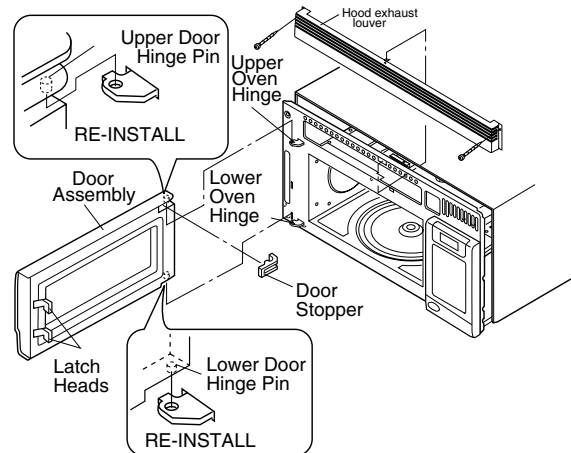

Figure C-2. Door Replacement and adjustment
- Remove one (1) screw holding the hood exhaust louver to the oven cavity with outer case cabinet, as shown in Figure C-2.
- Remove the hood exhaust louver from the oven cavity by pushing right and left tabs of the hood exhaust louver, as shown in Figure C-2.